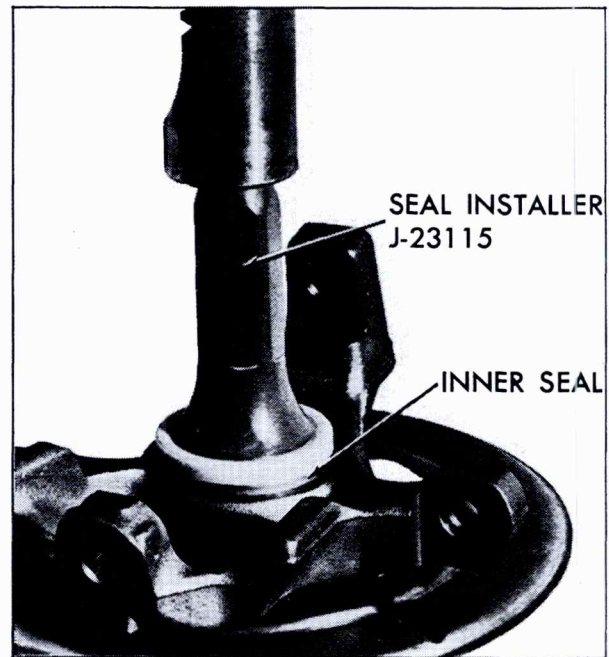

Fig. 3-42 Installing Inner Seal In Knuckle
13. Install inner seal on Seal Installer, J-23115, and press inner seal into steering knuckle, Fig. 3-42.
2. Position knuckle and hub assembly on arbor press, Fig. 3-42.
knuckle and press seal into knuckle, Fig. 3-42.